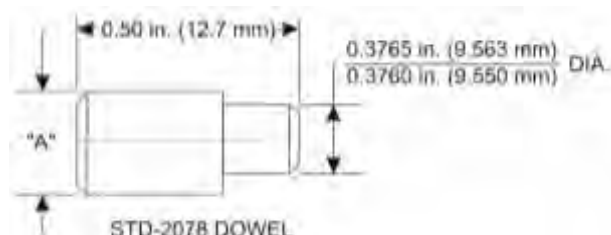

Figure 30
- Measure the diameter of the alignment dowel (Dimension A) shown in Figure 30 and determine if the measurement conforms to the values for the alignment dowel part number listed in the chart below.